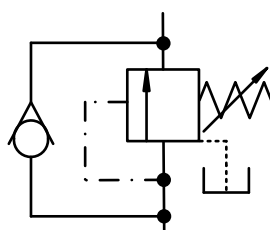

FIG 3.
- G. The symbol for a pressure sequence valve is shown in Fig 3.